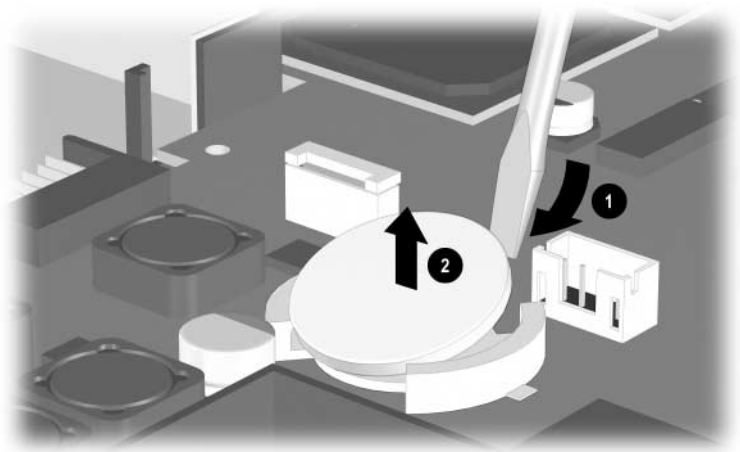

Figure 5-31. Removing the Disk Cell RTC Battery
2. Use a flat-bladed tool to release the RTC battery from its socket ❶ (Figure 5-31).
3. Remove the RTC battery ❷.